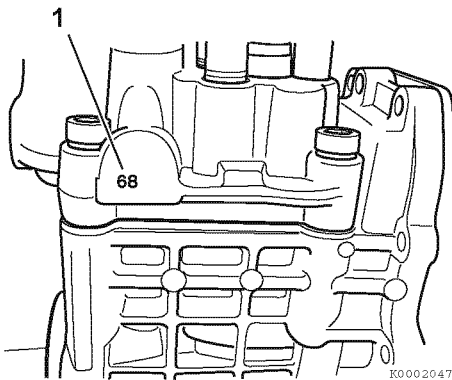

**Figure 7-20**
*Note: Some model engines may require the intake manifold and fuel injection pump insulator (Figure 7-20, (2)) be removed to access the inner fuel injection pump (Figure 7-20, (1)) retaining nuts.*
*Note: The MP2 fuel injection pumps (TNV82 - 88 model engines) are fastened to the gear case with three (3) studs and nuts. The MP4 fuel injection pumps (TNV94 - 106 model engines) are fastened to the gear case with four (4) studs and nuts.*
23. Remove the fuel injection pump (**Figure 7-20, (1)**). For purposes of future injection timing purposes, record the fuel injection pump timing index number located on the boss on the engine side (back) of the of the fuel injection pump (**Figure 7-21, (1)**).